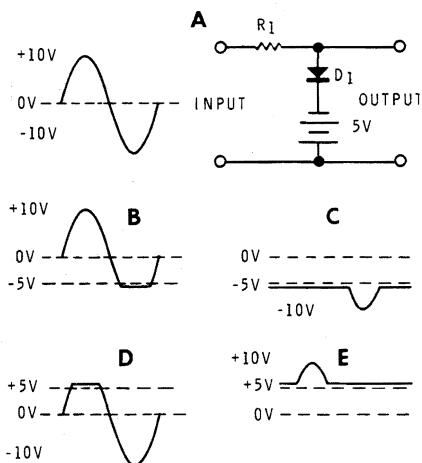

Figure 6-20
18. (-4.3 volts) Thus, the output will be as shown in Figure 6-20 \_\_\_\_\_.